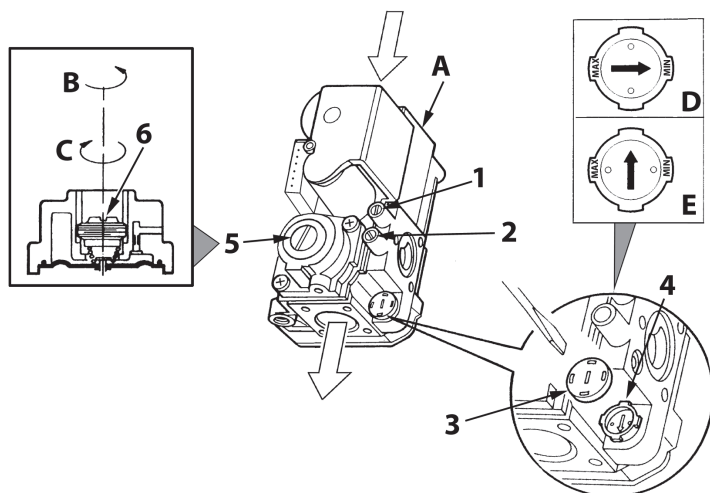

fig. 18 - Pressure adjustment
On PEGASUS D 45 K 130 boilers, the firebox heating power and therefore the heat output delivered to the heating water can only be adjusted by means of the main burner through the gas valve, (see fig. 18). The diagrams given in the section cap. 5.2 indicate the variation in heat output delivered to the water according to the change in burner operating pressure. Being able to adjust boiler output to the actual heating requirements means above all reducing heat losses, and therefore obtaining fuel saving. Also, with the variation in output, also regulated by the provisions, the boilers keep their efficiency levels and combustion characteristics practically unchanged
- Using a small screwdriver, remove the secondary operator protection cap 5 of the gas valve of fig. 18.
- Connect a manometer to the pressure point 2 (fig. 18) located below the gas valve, and turn the boiler thermostat knob to the maximum value.
- Adjust the pressure to the required value by means of the screw 6 (fig. 18), referring to the diagrams given in section cap. 5.2.
- Remove the small protection cap 3 (fig. 18) from the gas valve. Using a small screwdriver, adjust the ignition "STEP" for the required gas (G20-G25 position D fig. 18 or G30-G31 position E fig. 18); then refit the cap.
- Vent the air from the gas pipes by means of the gas valve pressure point 1 (fig. 18).